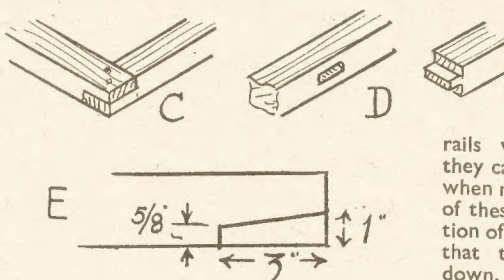

Fig. 3—Joints used in the framework
At Fig. 3 (E) a diagram is given to show how to cut the tops of the legs to give the necessary splay to them. Shallow grooves, $\frac{1}{4}$ in. deep, are cut in the top bars, at 2 ins. in from the ends, into which the legs are firmly glued and screwed. The rails are cut to length and nailed across.